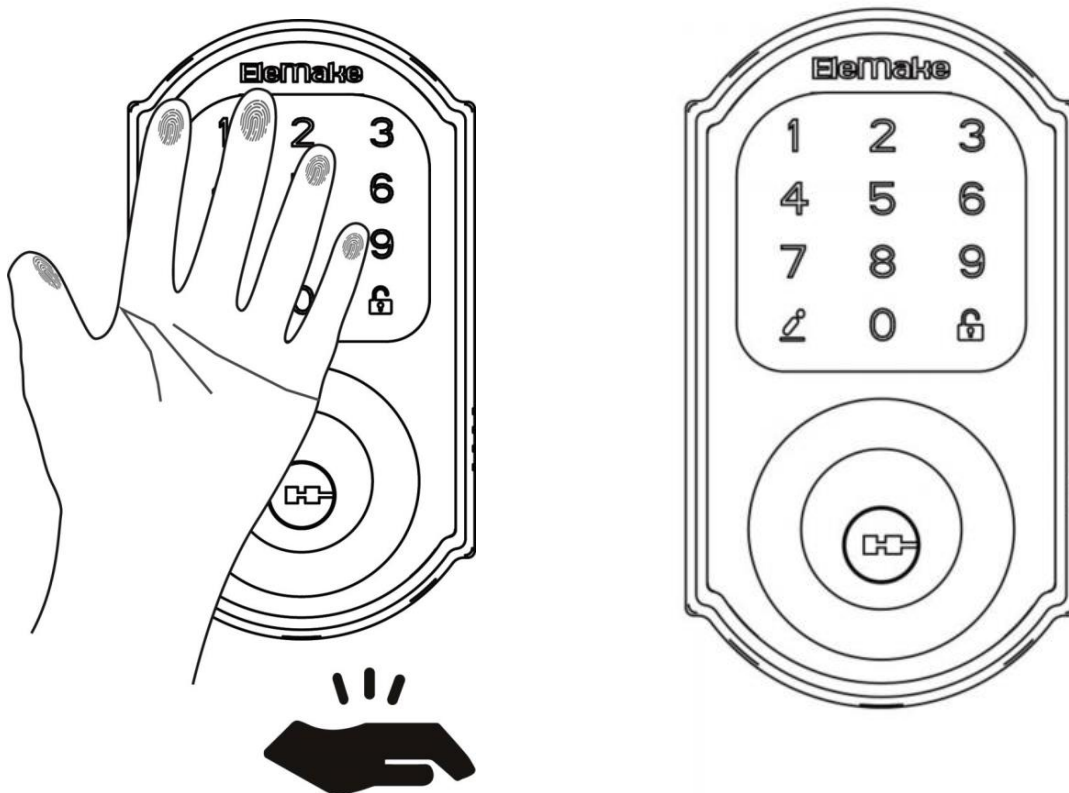

Figure P-1
(1) Password unlocking (See Figure P-1)
(3) RF card unlocking (See Figure P-1)